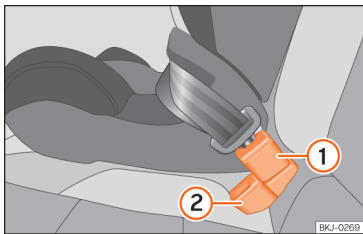

Fig. 42 Position of the belt buckle on the rear seat
- Place the middle seat's belt buckle »» Fig. 42
① behind the side seat's belt buckle »» Fig. 42
②.
- Plug the middle seat's seat belt into the middle seat's belt buckle »» Fig. 42 ① and make sure it clicks in place.
- For seat belts to be correctly fitted, the buckles must not be twisted »» Fig. 42.